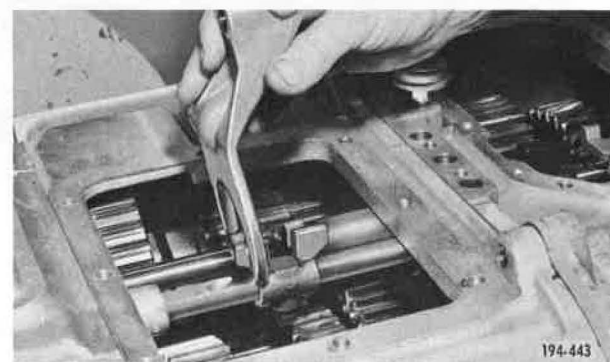

Figure 5-984. Installing Shift Fork
15. Install fourth/fifth speed shift fork onto fourth/fifth speed sliding clutch. See Figure 5-984.